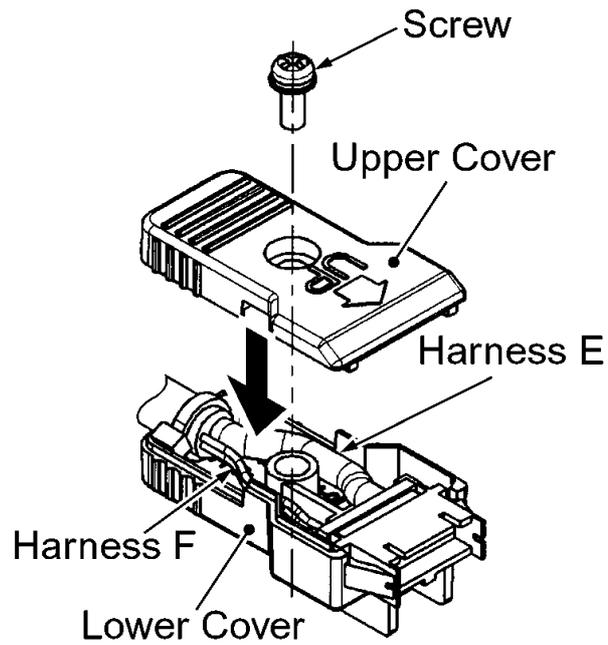

Figure 4.6 Fastening the Covers
- (3) Put the upper cover on the lower cover as shown in Figure 4.6, and fasten them by the screw.